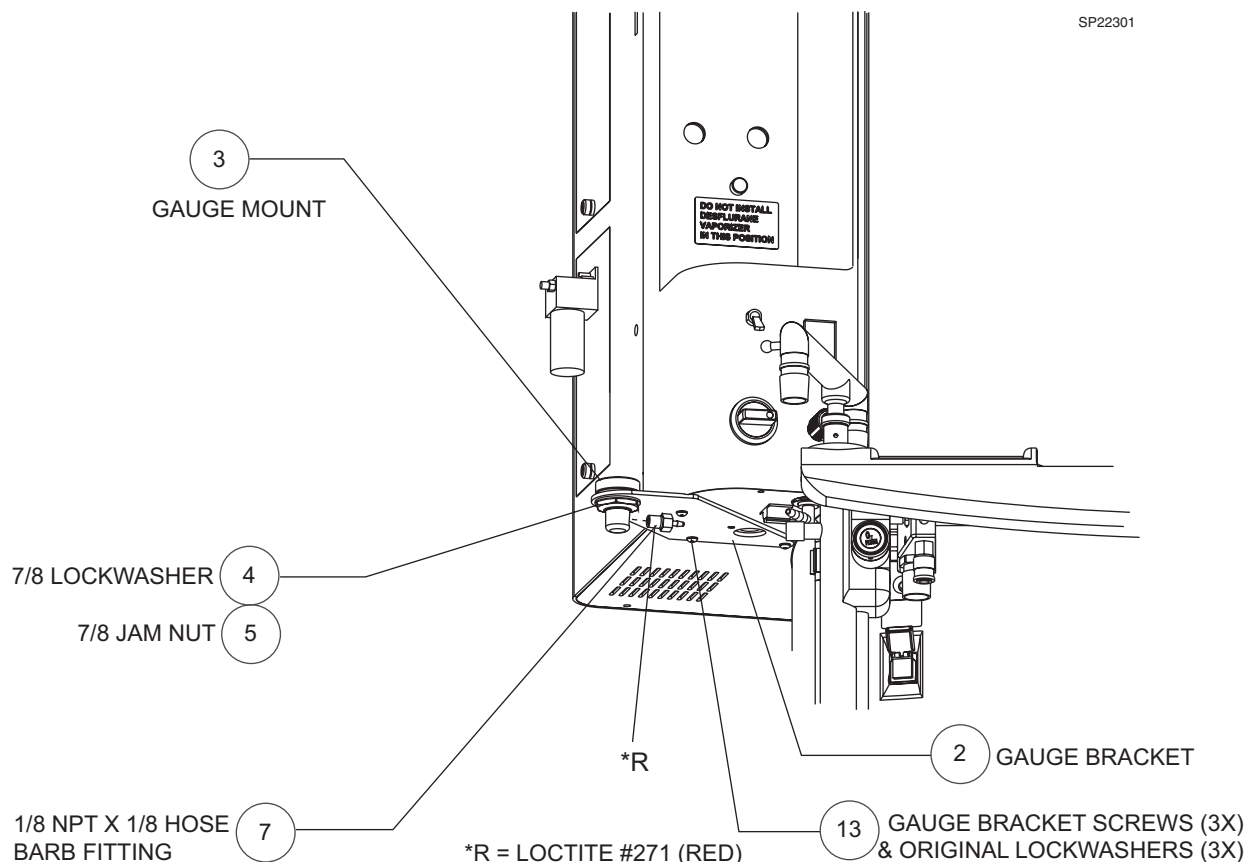

FIGURE 1. Gauge Mount Assembly
NOTE: Table 1 is for reference purposes only. It is provided for use in the identification of replacement parts. The item numbers listed in the "ITEM NUMBERS" column corresponds to the item numbers used in Figures 1 through 4.
1. Attach the gauge bracket (2) to the underside of the NM6000 cockpit as shown in Figure 1. Remove the existing screws and use the 8-32 x 1/2 in. btn hd screws (13) supplied in the kit, with the original lock washers.
2. Install the gauge mount (3) in the bracket, oriented with the side port facing the machine. Secure the gauge mount with the 7/8 jam nut (5) and lock washer (4) supplied in the kit.
3. Install the 1/8 NPT x 1/8 hose barb fitting (7) in the side port of the gauge mount. Use a small amount of Loctite #271 (red) on the threads.